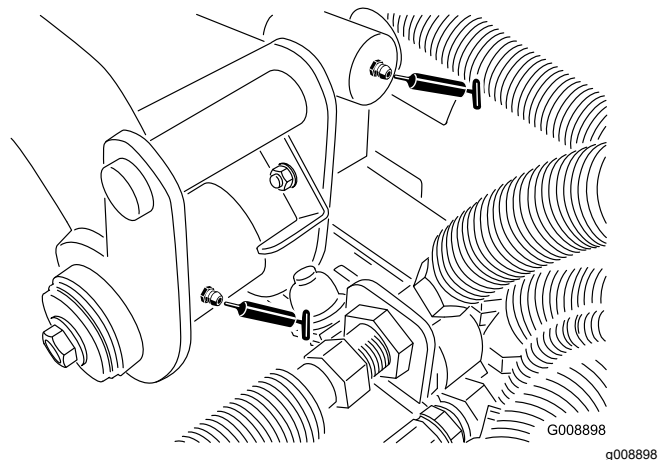

Figure 41
- Rear lift arm pivot and lift cylinder (2) (Figure 41)